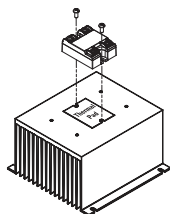

fig. 1 SSR mounted on HS053 heat sink (A)
- SSR mounting slots have a diameter of 0.2 in (5.0 mm). Two screws are needed to mount a single phase or dual SSR onto heat sink (See **fig. 1**). HS Series Heat Sinks include the necessary hardware to mount the relay(s) onto the heat sink. The number of hardware kits (HK1 or HKM1) included depends upon the number and type of SSRs possible to install on each heat sink. Recommended screw size is 8-32 (UNC standard) or M4 (metric) depending on the selected heat sinks. If you provide your own mounting screws choose screw length considering the mounting surface hole depth and SSR baseplate thickness.